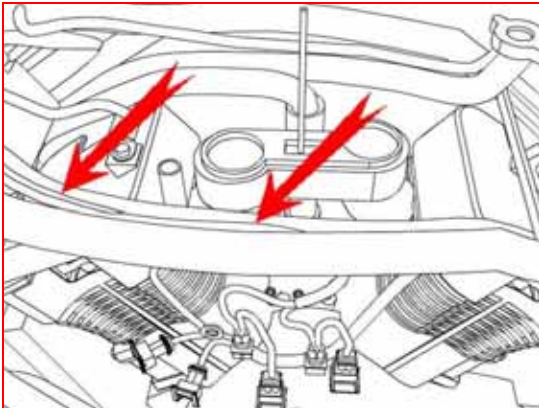

Fig 12
12. Continue pulling the TFI harness through, routing it on top of the main (plastic braid covered) harness. Route the connectors inside the frame, down through the engine V and out where the stock injector harness is. (See figure 12)